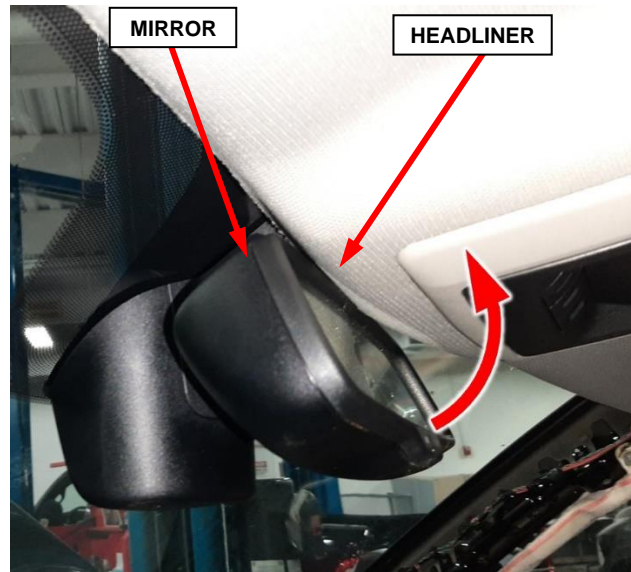

Figure 50 – Rearview Mirror
- 22. Tilt the rear view mirror up to allow clearance for lowering the headliner (Figure 50).
38. Tilt the rear view mirror down to allow it to support the headliner (Figure 50).